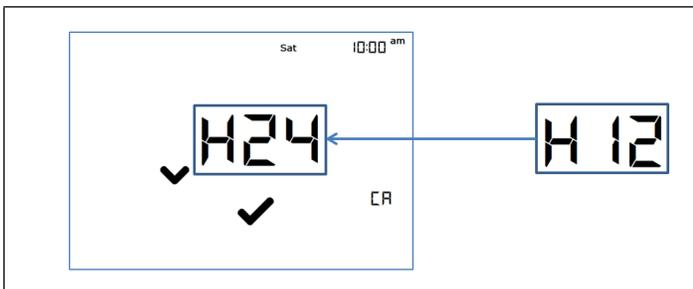

Figure 3-17 - Time Format Setting with Check Icon
- The first step in time settings is to set the time format between 12 hours AM/PM or 24 hours. Select between H12 for 12-hours AM/PM and H24 for 24-hours format, and then press the check icon to go to the next parameter (see **Figure 3-17**). Press **CA** to cancel and return to the normal display without saving any changes.